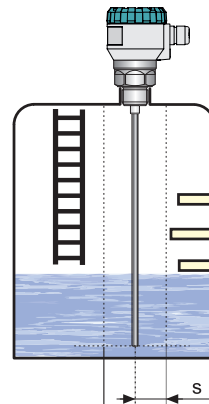

Fig. 12: Level meter installation outside obstacles in the tank
- The level meter generates electromagnetic guided wave, which creates an electromagnetic field along the electrode. Objects placed close to the electrode disturb the electromagnetic field and thus affect the measurement. Therefore, it is determined **protective zone** along the electrode of radius **300 mm**. The level meter is recommended to install the tank so that the items placed inside the tank (ladders, various partitions, mixers, etc.) does not intervene into the protective zone, see Fig. 12.